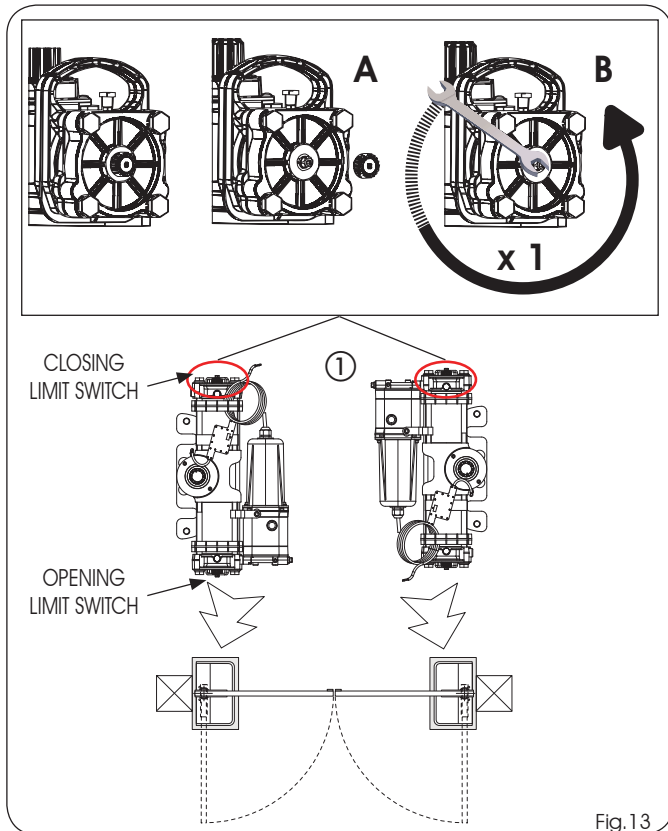

Fig.13
- 3) Unscrew the cap (Fig.13 ref.A) on the screw of the closing limit switch (Fig.13 ref. ①), and make sure that the screw is tightened all the way.
- 4) Loosen the screw of the closing limit switch (Fig.13 ref.B) by one turn (Important to correctly couple the pinion-splined bush during installation).